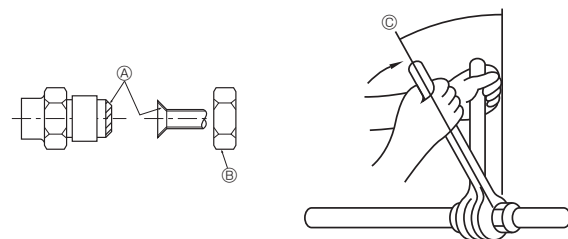

Fig. 5-9
- Apply a thin coat of refrigeration oil on the seat surface of pipe. (Fig. 5-9)